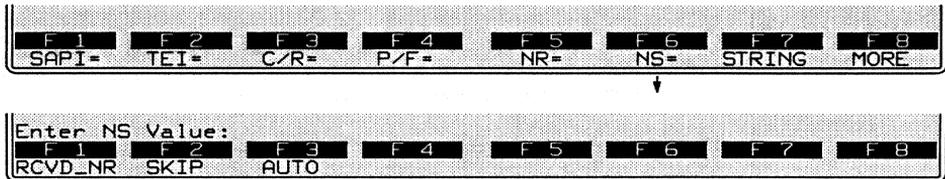

Figure 39-25 The *N(S)* field may be specified in a SEND INFO action.
11. *N(S)*. *N(S)* fields are transmitted in INFO frames only. (See the frame-field diagrams in Figure 39-4.) Entries for *N(S)* in SEND INFO actions are optional. The softkeys that open below NS= are illustrated in Figure 39-25.
Press the SEND softkey followed by the softkey for a frame type. Add any necessary or desired SEND options for the particular frame type. Then press the STRING softkey (labeled F7 in Figure 39-25).